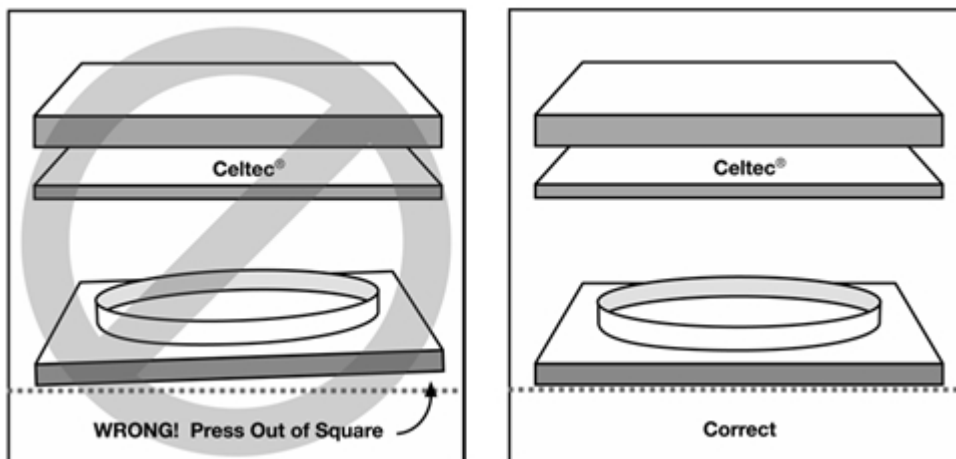

Figure 1g
**NOTE!** IMPORTANT! Before proceeding, make certain that the press is not out of square (Figure 1g).